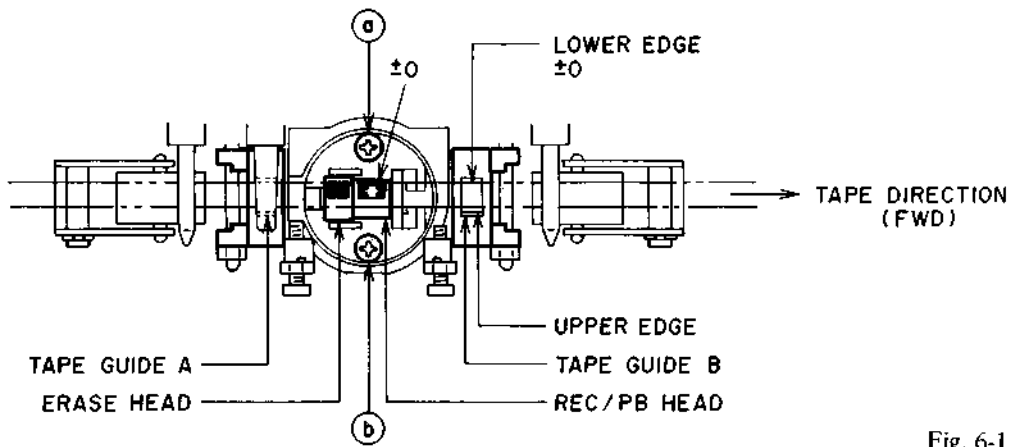

Fig. 6-1
(Refer to Figs. 6-1, 6-2 & 6-4)
- 5) When the head replacement is necessary, loosen only the screws (a) & (b) in Fig. 6-1 for easy replacement.